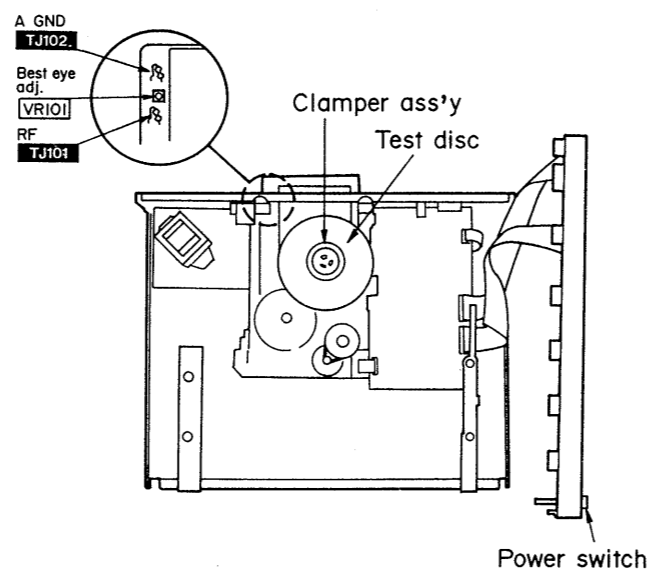

Fig. 1
6. Place the test disc and secure it by using clamber ass'y. (Refer to Fig. 1)
1. Connect the oscilloscope's CH. 1 probe across **TJ101** (+) and **TJ102** (GND) on the servo P.C.B. (Refer to Fig. 1)